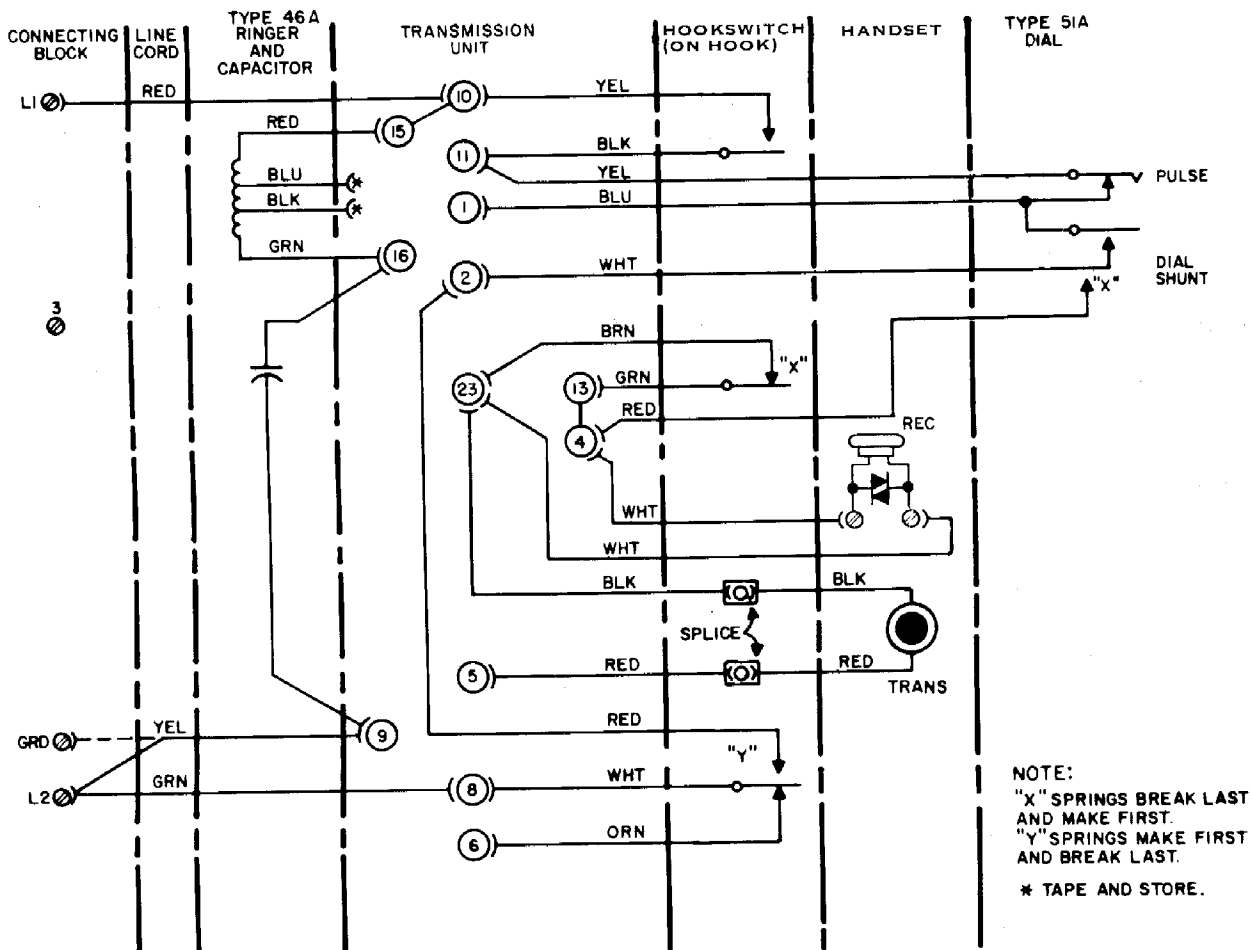

Figure 16. Typical Wiring Diagram of Specialty Telephone Equipped with GTE Automatic Electric Components.
11.01 Figures 16 through 18 are typical wiring diagrams of the specialty telephones equipped with GTE Automatic Electric components.